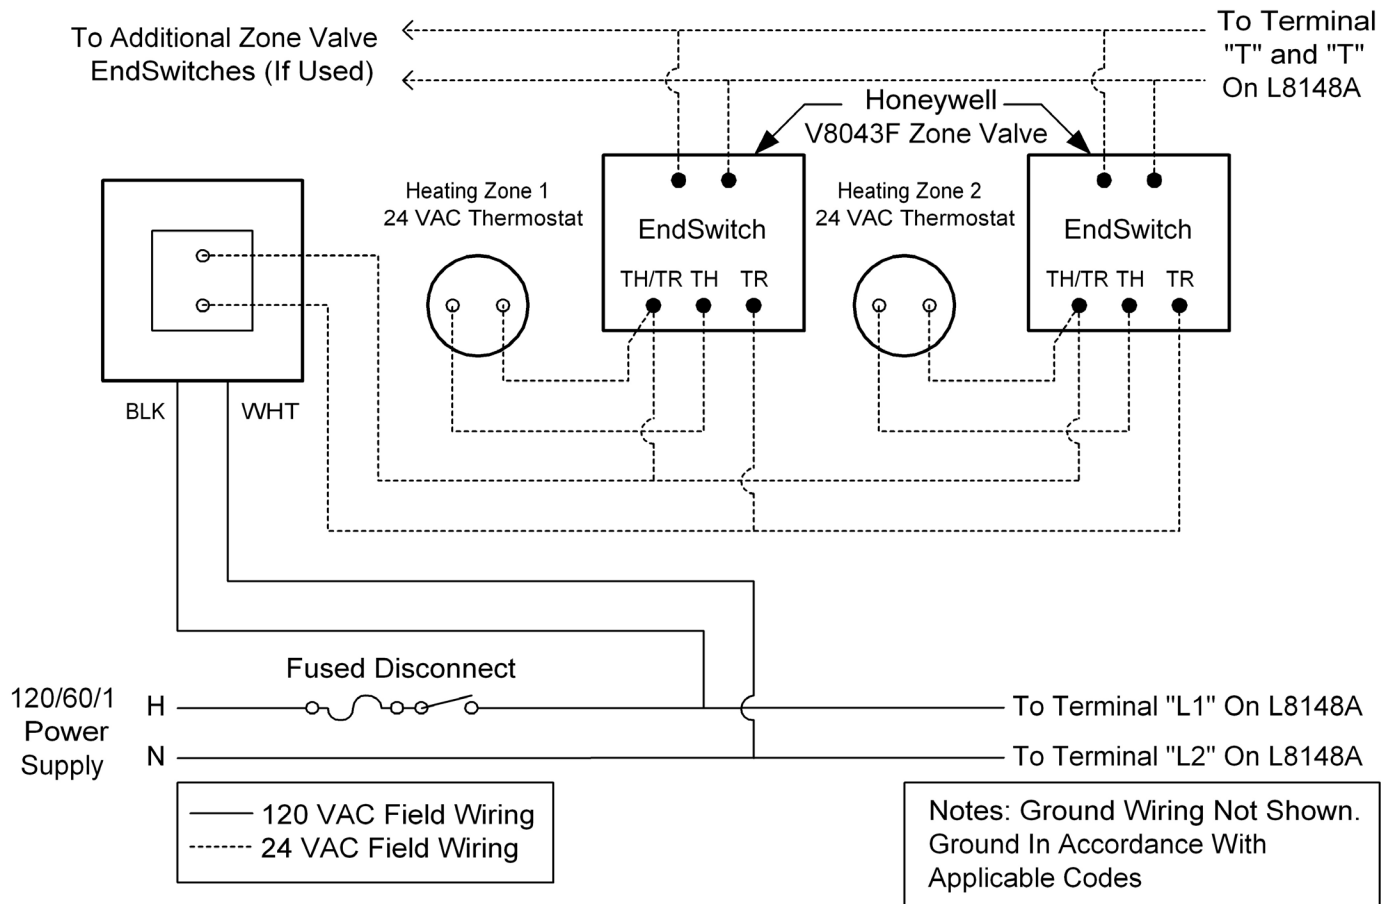

Figure 35 – Wiring diagram, circulator zone wiring using Honeywell R845A valves (factory boiler wiring not shown here – see figure 32 or 33)
2. Multiple Zones using Zone Valves—Figure 35 shows wiring for multiple zones using Honeywell V8043F zone valves. This wiring diagram may be used for other 24-volt zone valves as long as they are equipped with end switches. Do not attempt to use the transformer on the L8148A to power the zone valves; use a separate transformer. Up to five V8043Fs may be powered by one 48VA transformer, such as the Honeywell AT87A. A call for heat from a given thermostat will result in the application of 24 volts across the TH and TR terminals on the corresponding zone valve, energizing the zone valve motor. The zone valve opens and the end switch contacts are then made. The end switches are connected in parallel with each other and to the “T” and “T” thermostat connections so that any zone valve that opens will also start the circulator and fire the boiler (assuming the high limit is not open). Zone valve terminal TH/TR has no internal connection on the zone valve; it is merely a “binding post” used to connect two or more wires.